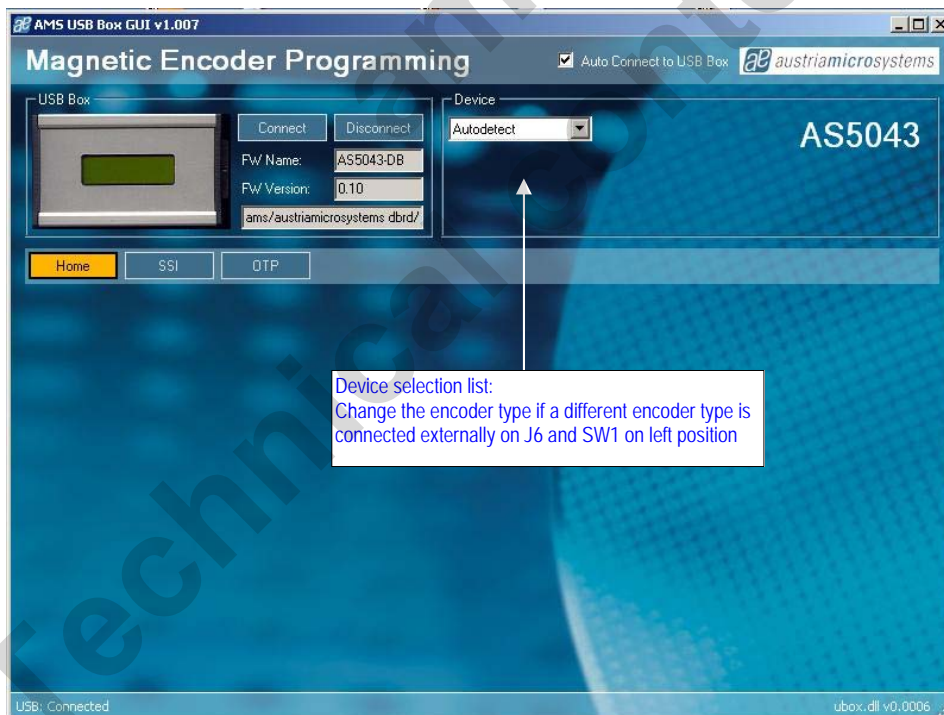

Figure 4: AS5000 GUI detected the AS5043 Demoboard
Figure 4 shows the main window of the GUI. On the top left corner, board information's as firmware (FW) version and demoboard name declaration can be found.